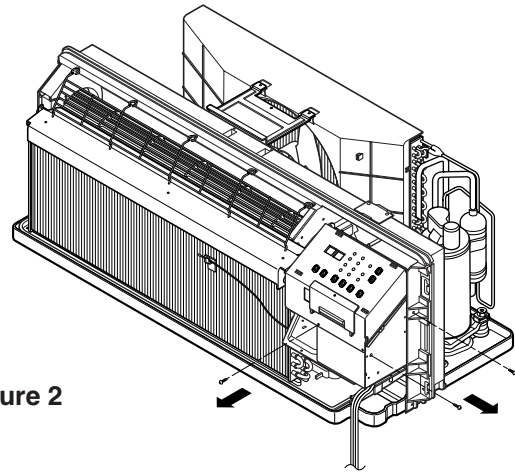

Figure 2
2. Remove the two screws which fasten the control box. (See Figure 2)